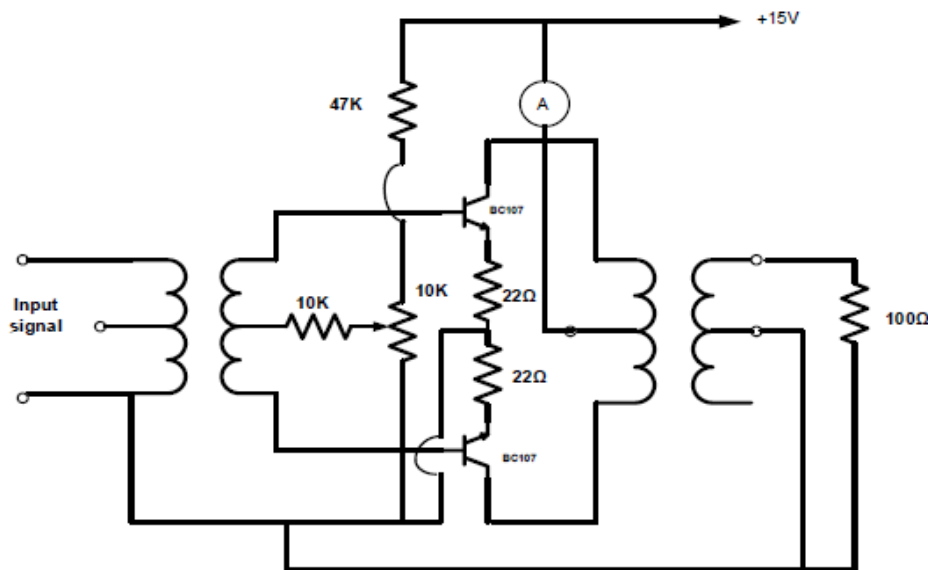

Figure 10
1. The circuit in Figure 10 was connected.